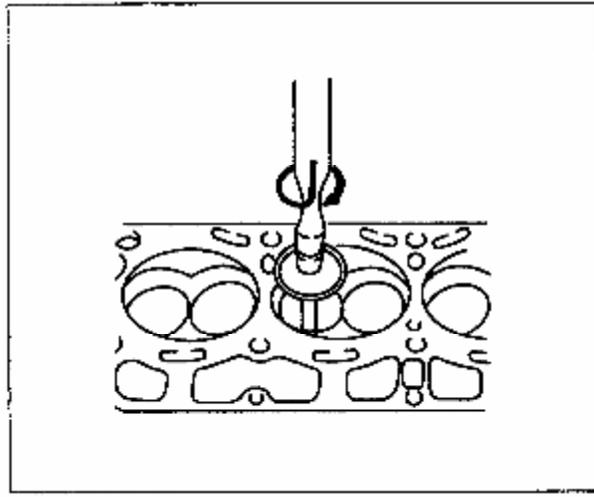

Figure 3-14 Grinding of Valve and Valve Seat
- (3) Grind the valve and valve seat with valve grinding compound to make them join closely without gas leaking (see figure 3-14). After grinding, clean the valve, valve seat and inner hole of valve guide thoroughly.